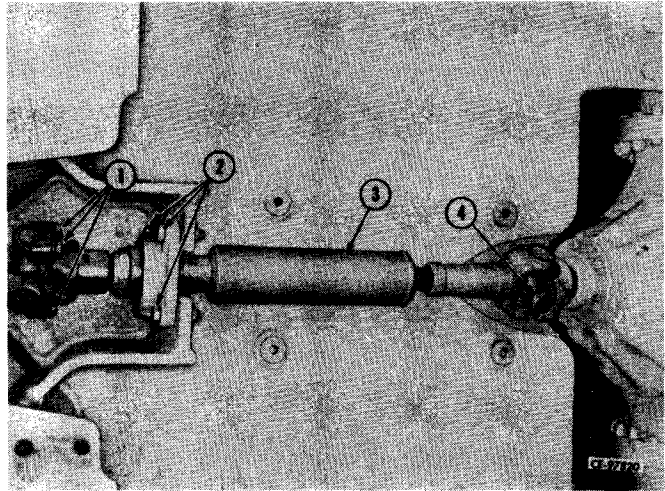

Figure 5-3
Disconnect ends of drive shaft (3, Fig. 5-3) by removing nuts, lock washers and "U" bolts (1, 4). Disconnect center bearing from frame by removing cap screws and nuts (2). Remove drive shaft (3).